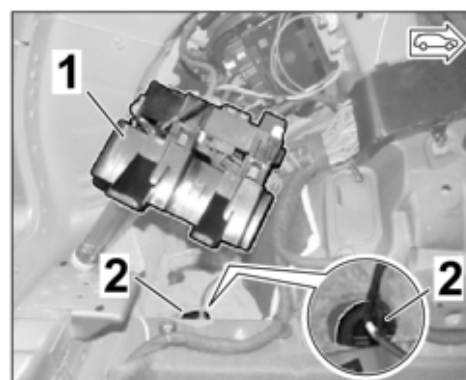

Figure 19
3.3.1 Loosen the fuse box with holder in the left rear boot and swivel it aside. ⇒ Figure 19 ⇒ Workshop Manual '978409A8 Loosening and securing fuse box in the boot'